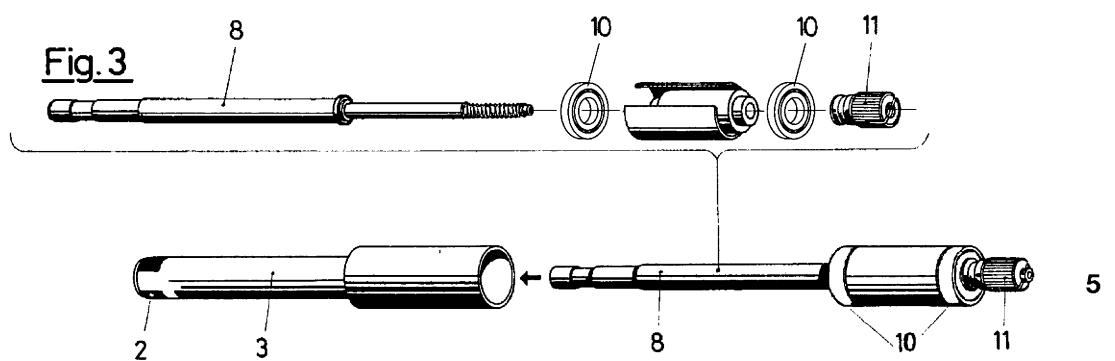

Fig. 3
If the ball bearings become fouled with dirt due to carelessness when changing the oil, they should be dismounted (see Fig. 3) and cleaned in undiluted gasoline (never use any other type of cleaning solvent).
If the ball bearings have to be replaced by new ones after the current meter has been in service over a long period, the procedure indicated in Fig. 3 should likewise be followed. Then place nut (11) on properly and tighten it. In doing so, the steel shaft (8) should preferably be held in the meter body (1) as indicated in Fig. 3. After assembly, remove the protective grease from the ball bearings with undiluted gasoline.